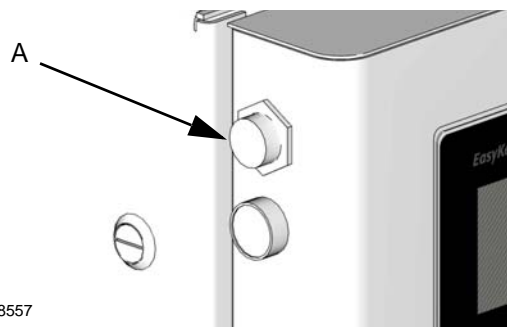

FIG. 31 EasyKey Web Connection
Patch cables are used to connect each TOF 200 unit to the local network and to the Web connection (A) on the EasyKey panel. See FIG. 31